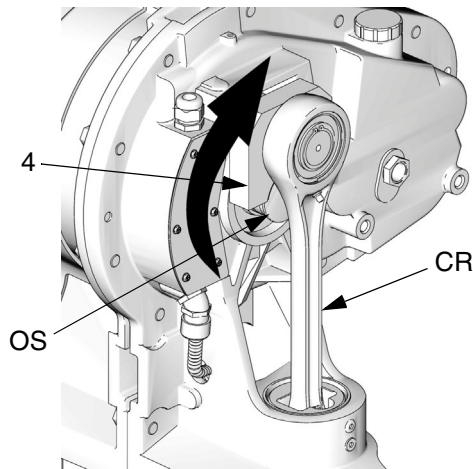

FIG. 16. Rotate Crank Arm
10. See FIG. 16. Rotate the crank arm (4) to allow it to be removed from the output shaft (OS).
11. Pull the crank arm/connecting rod/slider piston assembly (CR) up and out of the cylinder.
12. Remove the old bearings (8).